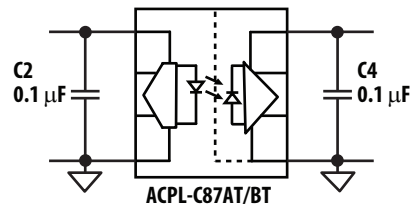

Fig 29. Bypass Capacitors C2, C4
0.1 μ F bypass capacitor must be connected as near as possible between V_{DD1} to $GND1$ and V_{DD2} to $GND2$ (Figure 29).